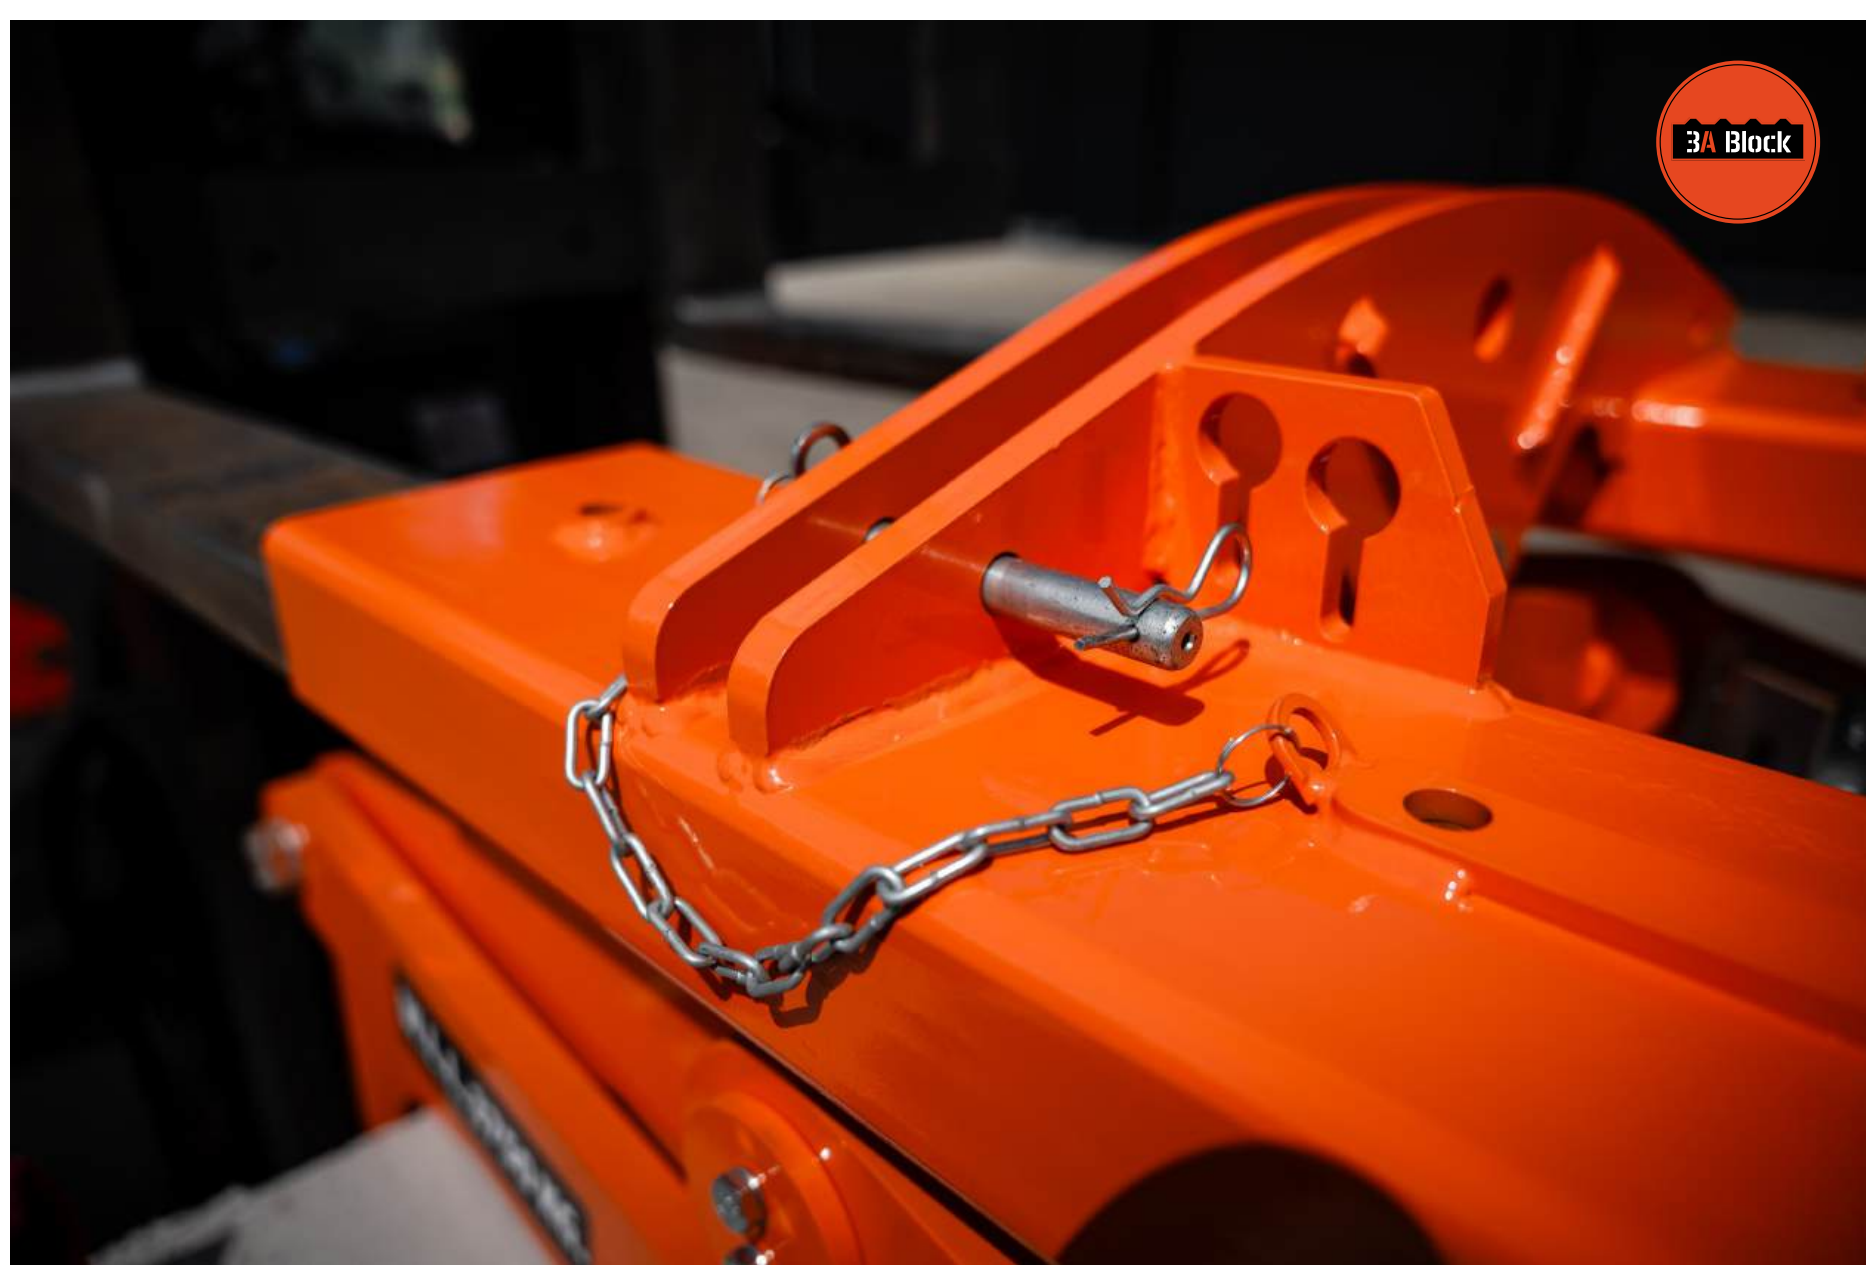

Fig. 5
- Put the locking pin of the lifting beam or use chain through the holes to secure beam on the forklift; (Fig. 5)